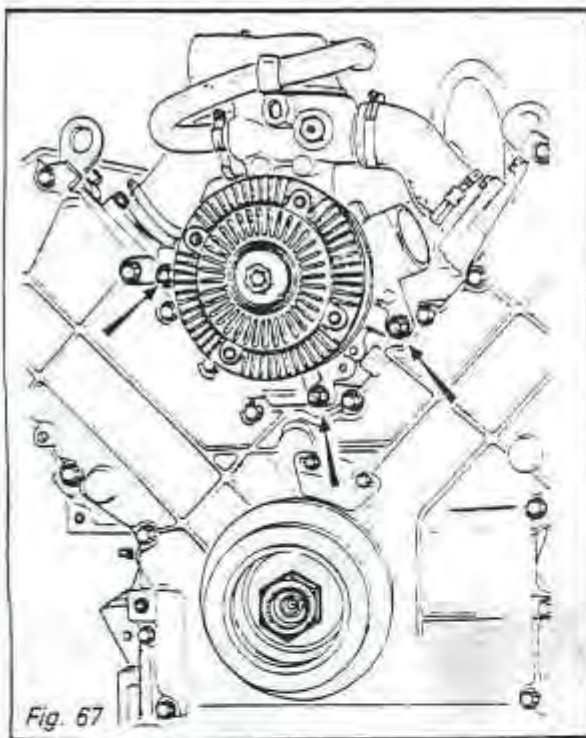

Fig. 67
- water pump and hoses (Fig. 67)